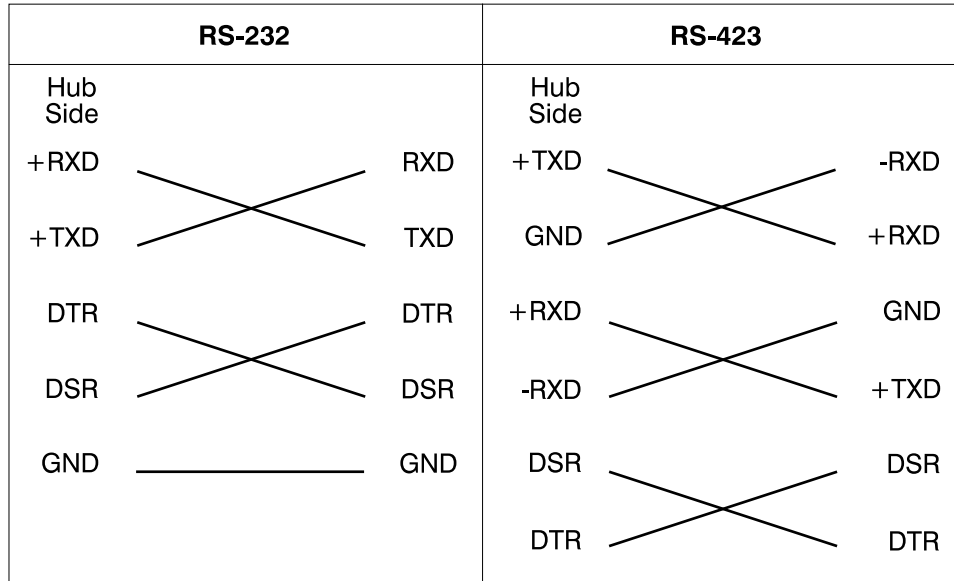

Figure 124. Direct Attachment Terminal Server Interface
**Note:** When a Terminal Server module is connected to a terminal without modems, DTR/DSR and RXD/TXD lines must be crossed at one cabling end (direct attachment connection). See Figure 124 on page 230.